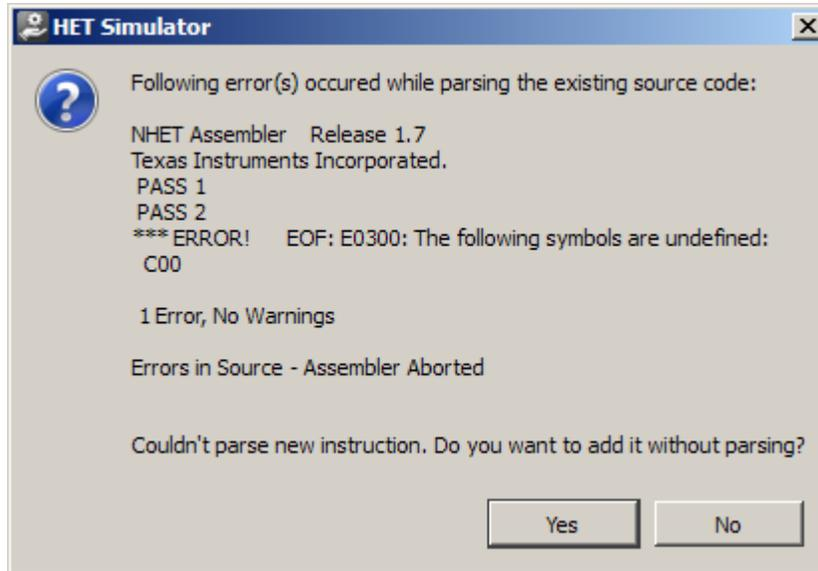

Figure 14. Error Because C00 is Not Yet Defined - This is Normal
8. Press OK on the PCNT wizard. Note that an error message appears (see Figure 14). After every instruction insertion through the wizard, the HET IDE tries to assemble your program to make sure that the instruction you just inserted is free from errors. In this case, the error is expected. The PCNT instruction was told to branch to the instruction labeled "C00" next, but that instruction was not yet entered so the assembly will fail. This is OK so select "Yes".